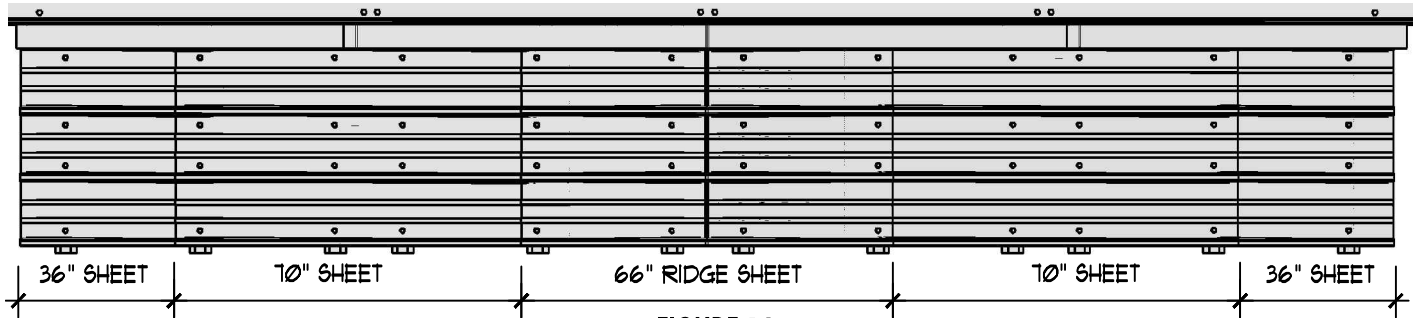

FIGURE 16
- Place the Ridge Roof Sheet (C-041-00) back on the canopy. Center it to make sure it is under the Transition Flashing and centered on the ridge. Using the Structural Screws (F-051-00) fasten to the Hat Purlins per **Figure 16**. Using the roll of Tape Sealant, apply to the last major roof panel corrugation under the Transition Flashing from eave to eave. Remove paper and secure the Transition Flashing to the Roof Sheets with Stitch Screws (F-051-00) 6" on center.